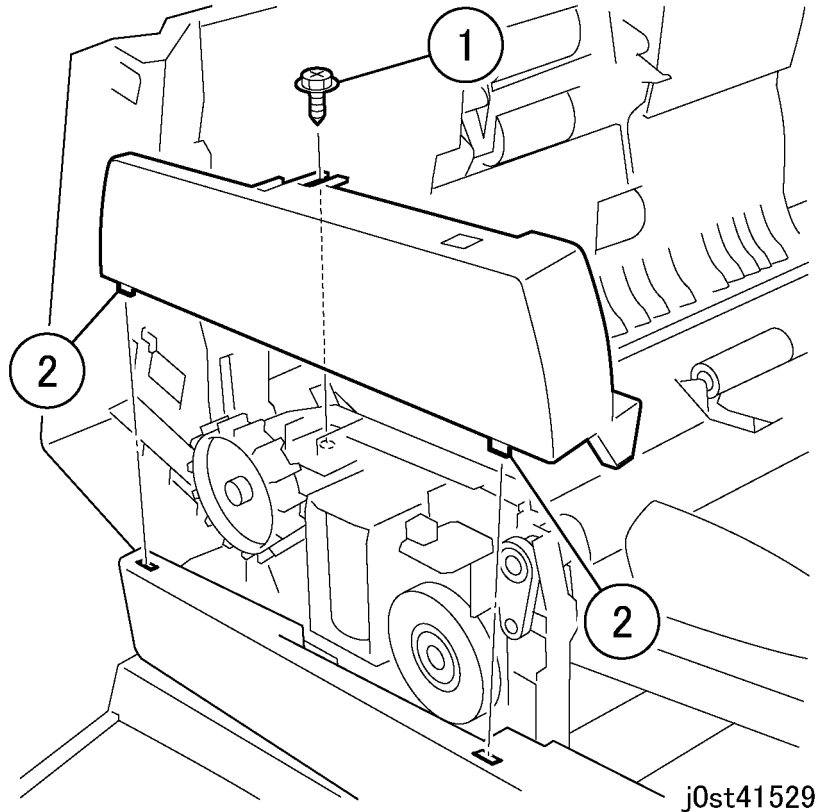

Figure 1 Removing the DADF Front Cover
2. Remove the DADF Front Cover. (Figure 1)